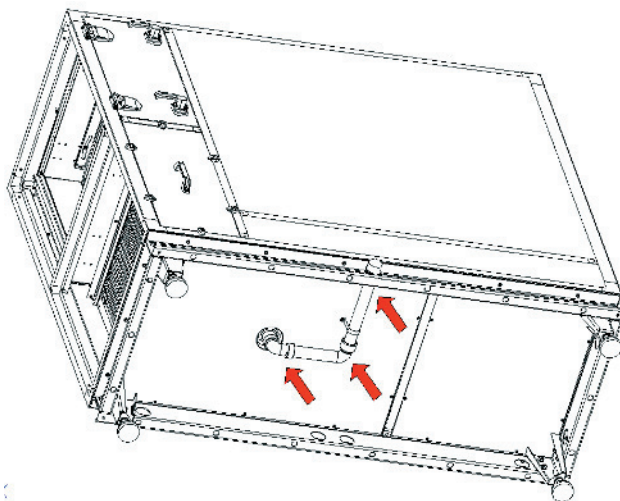

Figure 6
- **Pay special attention not to exert any pressure to the bottom cover of the air handling unit or to the components attached under the cover** (e.g. the ground drain pipes – Figure 6)